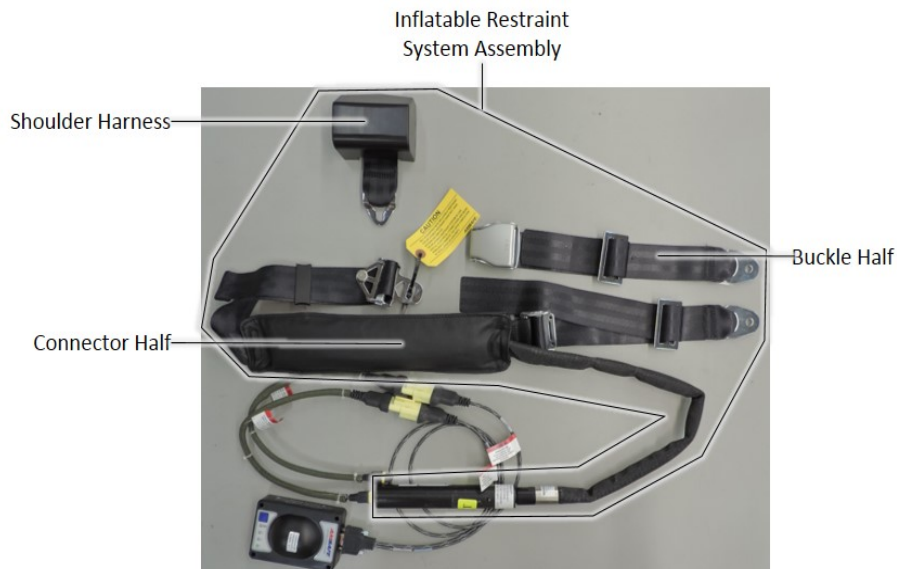

Figure 2. Connector Half, Buckle Half and Shoulder Harness
- (2) The system consists of an inflatable restraint system assembly, interface cable assembly and LRU/inflator interface cable, inflator assembly and an electronic module assembly (EMA).
- (a) The inflatable restraint system assembly consists of three primary subassemblies: the connector half, the buckle half and the shoulder harness (Figure 2).